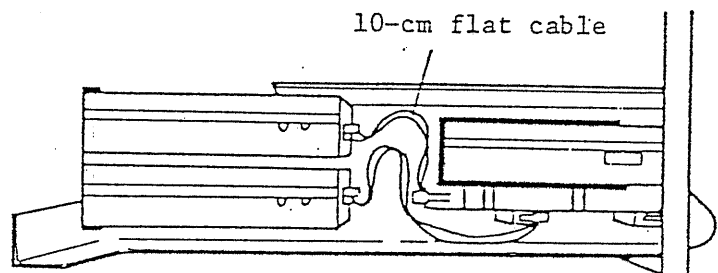

FIG. 13
- 11) To control both voltage and current, make connections as shown in Figure 13.
- 12) Fix cover (6).
- 13) To control voltage, disconnect the shorting bar from between rear terminals (4) and (5). To control current, disconnect the shorting bar from between rear terminals (11) and (12). To control both voltage and current, disconnect both shorting bars.